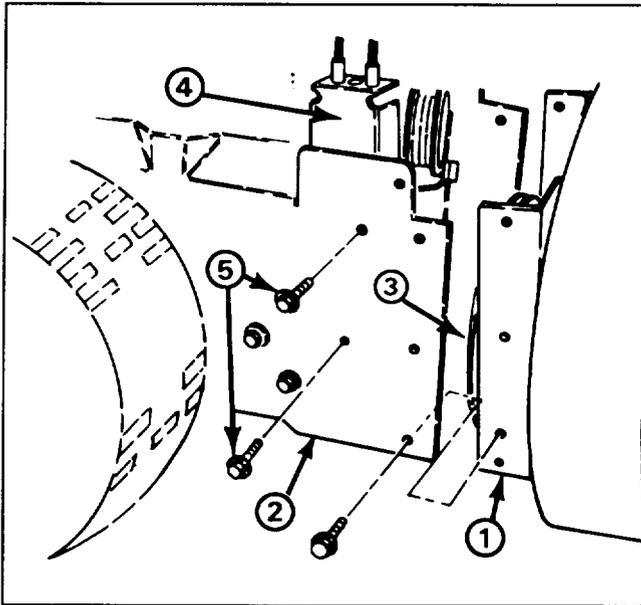

Figure 1
1. Remove (2) flange head capscrews securing idler pulley assembly to engine frame. Remove idler pulley assembly.
2. Align auger housing and engine frame mounting holes (Fig. 1).
4. Secure auger housing to engine frame with (6) 5/16-18x5/8" lg. flange head capscrews.